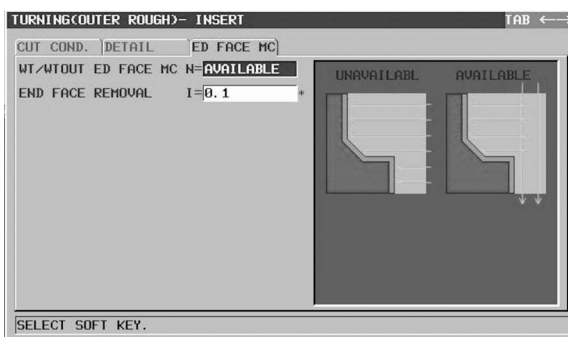

Figure 7-26 TURNING (OUTER ROUGH) ED FACE MC
- e. Use the cursor to advance to the ED FACE MC tab. Set the values as shown in Figure 7-26. This will remove the .100 inch of stock on the front face of the part to establish the zero face.